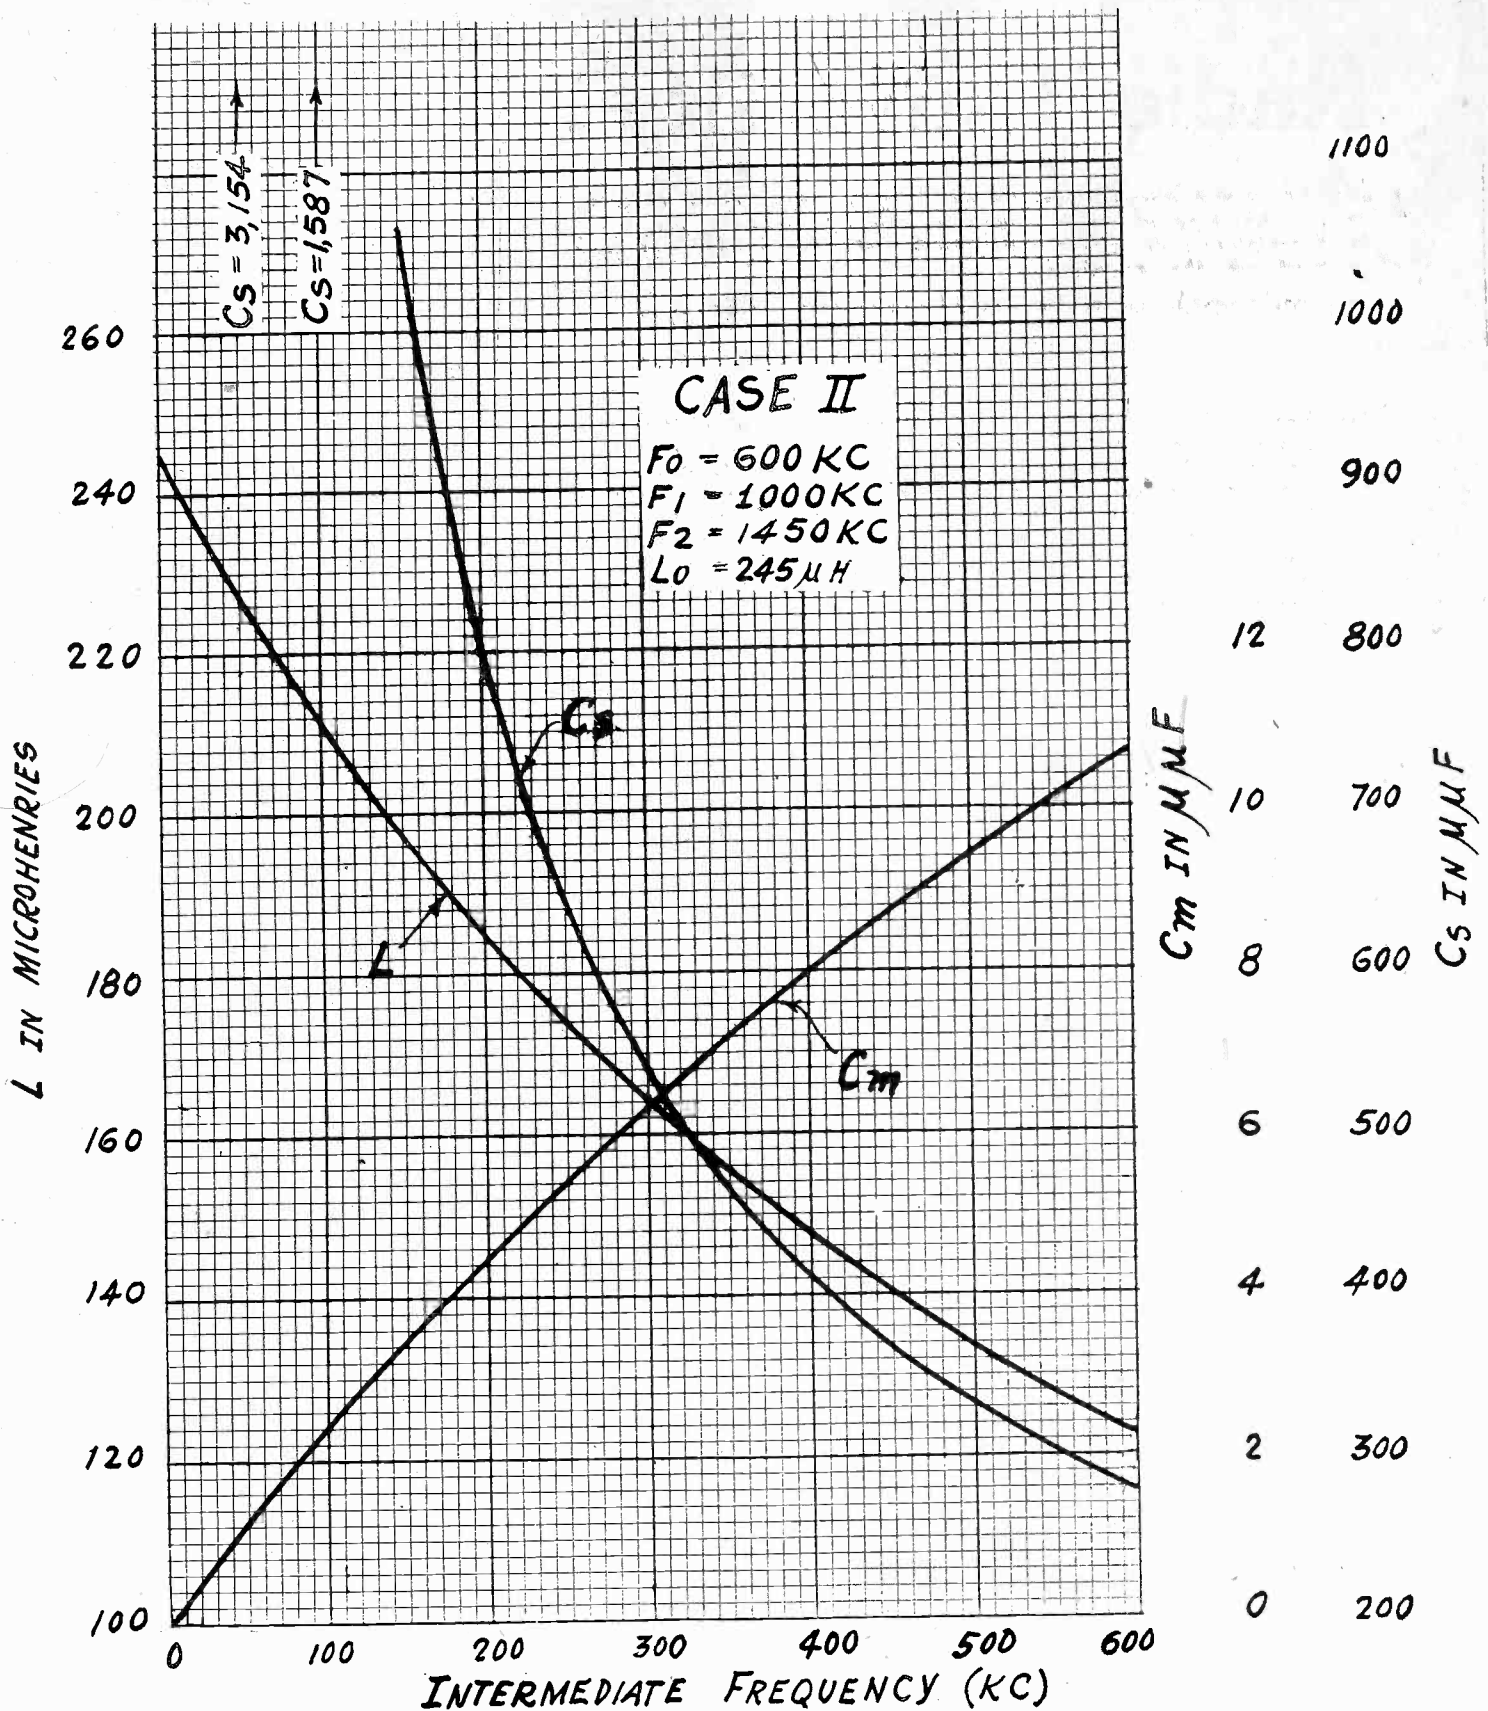

FIG. 2
The curves in Fig. 2 have been computed with formulas (3), (4), and (5) at intervals 50 kilocycles from $f = 0$ to $f = 600$ kc. L varies from 245 to 122.8 microhenries, C_m varies from zero to 10.1 mmfd., and C_s varies from infinity to 255.5 mmfd. Since C_s varies very rapidly as the intermediate frequency becomes low, the last value given on the curve is that for $f = 150$ kc. However, the two values at 100 and 50 kc are indicated at the appropriate abscissas.